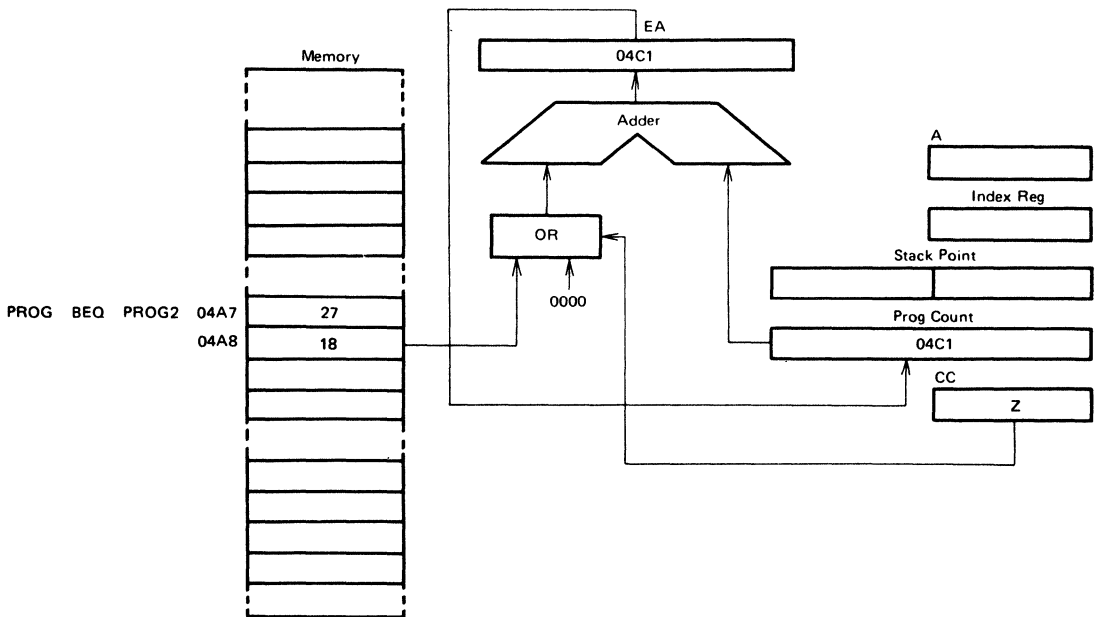

Figure 17 Relative Addressing Example
Refer to Figure 17. The relative addressing mode applies only to the branch instructions. In this mode the contents of the byte following the opcode is added to the program counter when the branch is taken. $EA = (PC) + 2 + Rel$. Rel is the contents of the location following the instruction opcode with bit 7 being the sign bit. If the branch is not taken $Rel = 0$, when a branch takes place, the program goes to somewhere within the range of +129 bytes to -127 of the present instruction. These instructions are two bytes long.